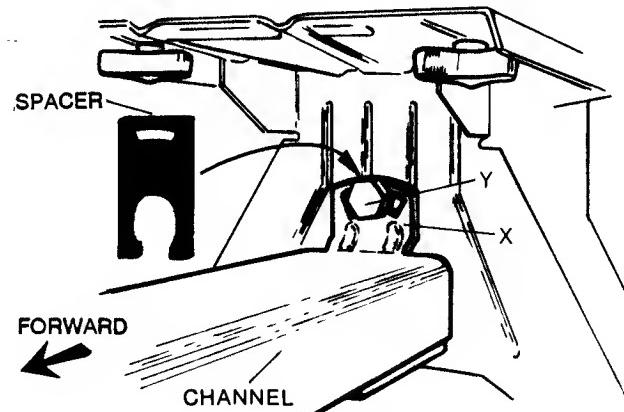
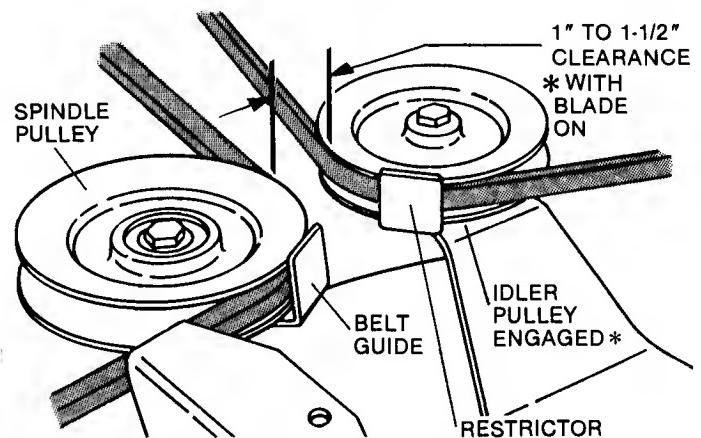

FIG. 8 - BELT ADJUSTMENT
FIG. 9 - BELT TENSION
With the mower deck in the #5 height position and the blade in the ON position, check the distance between the inside surfaces of the belt as shown in FIG. 9. The belt tension is adjusted by changing the "distance" between the front axle and the rear case. Remove the shoulder bolt (Y) (with the two metal spacers) from the main channel tab (X) and pull the front assembly FORWARD, increasing the belt tension until the correct amount is achieved. Then remove one or more spacers (as needed) from the hardware bag and align the spacer(s) behind main channel tab (X) and over the tube below it. Insert the shoulder bolt (without one or both of the metal spacers) through the matching holes in spacer(s) and tab (X), and screw it into the front of the rear case - securely tighten! Refer to FIG. 8.
If belt becomes frayed, cracked, or worn, replace as follows: Remove the BELT COVER, then cut and remove the old belt. To install new belt, close fuel cap (10-C) valve. Stand mower on REAR BUMPER (14-C), shift into NEU. position, work belt between discs, shift into #5 speed and push belt over edge of engine drive disc. Work into the groove of the drive disc, then connect other end to pulleys on mower deck as follows: Loosen or remove the idler pulley, loop the belt around spindle pulley as shown in FIG. 9 and work belt between restrictor and idler pulley. Make sure locking tab on restrictor is engaged in idler arm before securing idler arm nut and bolt. Check and adjust belt tension as needed before reinstalling BELT COVER.